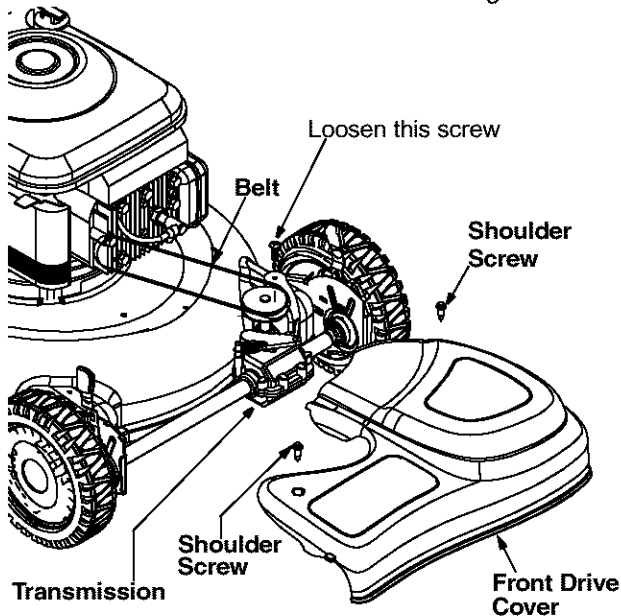

Figure 11
- Remove two shoulder screws securing the front drive cover to the mower deck. See Figure 11.
- Using a torx wrench, loosen the screw holding the belt tension spring to the transmission. See Figure 11. Do not remove the screw completely. As you loosen the screw, tension on the belt will release.